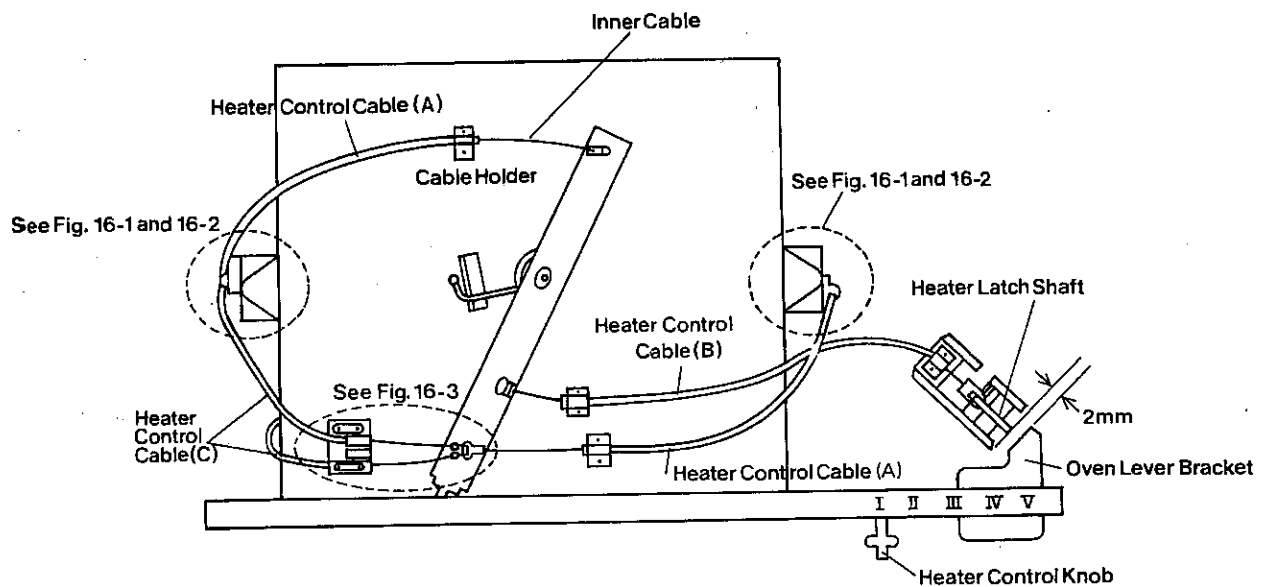

Figure 13. Heater Cable Adjustment
1. With the heater control knob set at "I" position, the distance between the heater latch shaft and the open lever bracket should be 2.0 mm (Figure 13.)